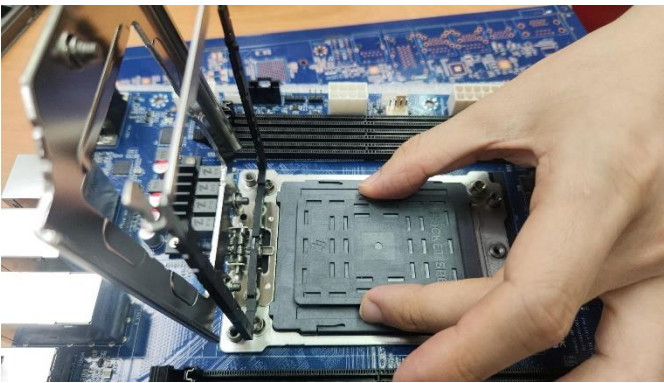

Figure 5.1
- A. Use thumb and forefinger to hold the removal tap of the PnP Cap. (Figure 5.1)